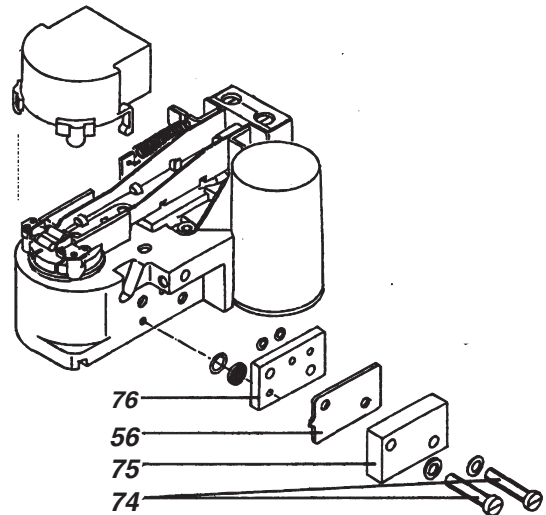

Fig. 29: Removal of the Venturi
- The test gauge must read 0.18 to 0.19 bar at current signal 0 mA. Otherwise set the adjustment lever **73** so that this value is indicated. If this is not possible, remove the Venturi **56** (see Fig. 29) and clean it.
#### 5.3.3 Clean the Venturi (see Fig. 29)